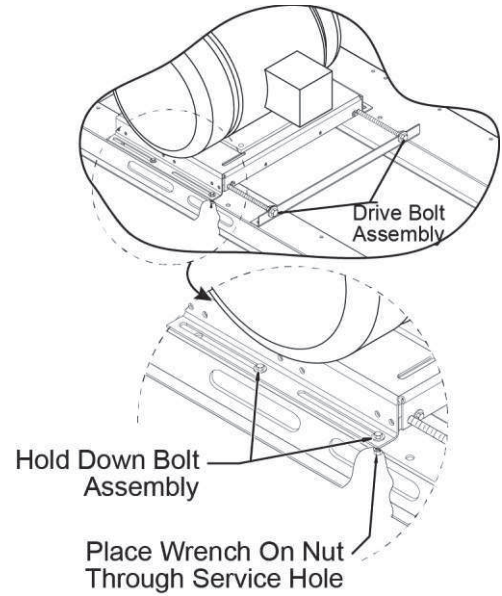

FIGURE 35 - ADJUSTABLE MOTOR BASE
5. Secure the nut with a wrench placed through the service hole and loosen the bolt. Do this to all four hold down bolt assemblies as shown in *Figure 35* on page 51.